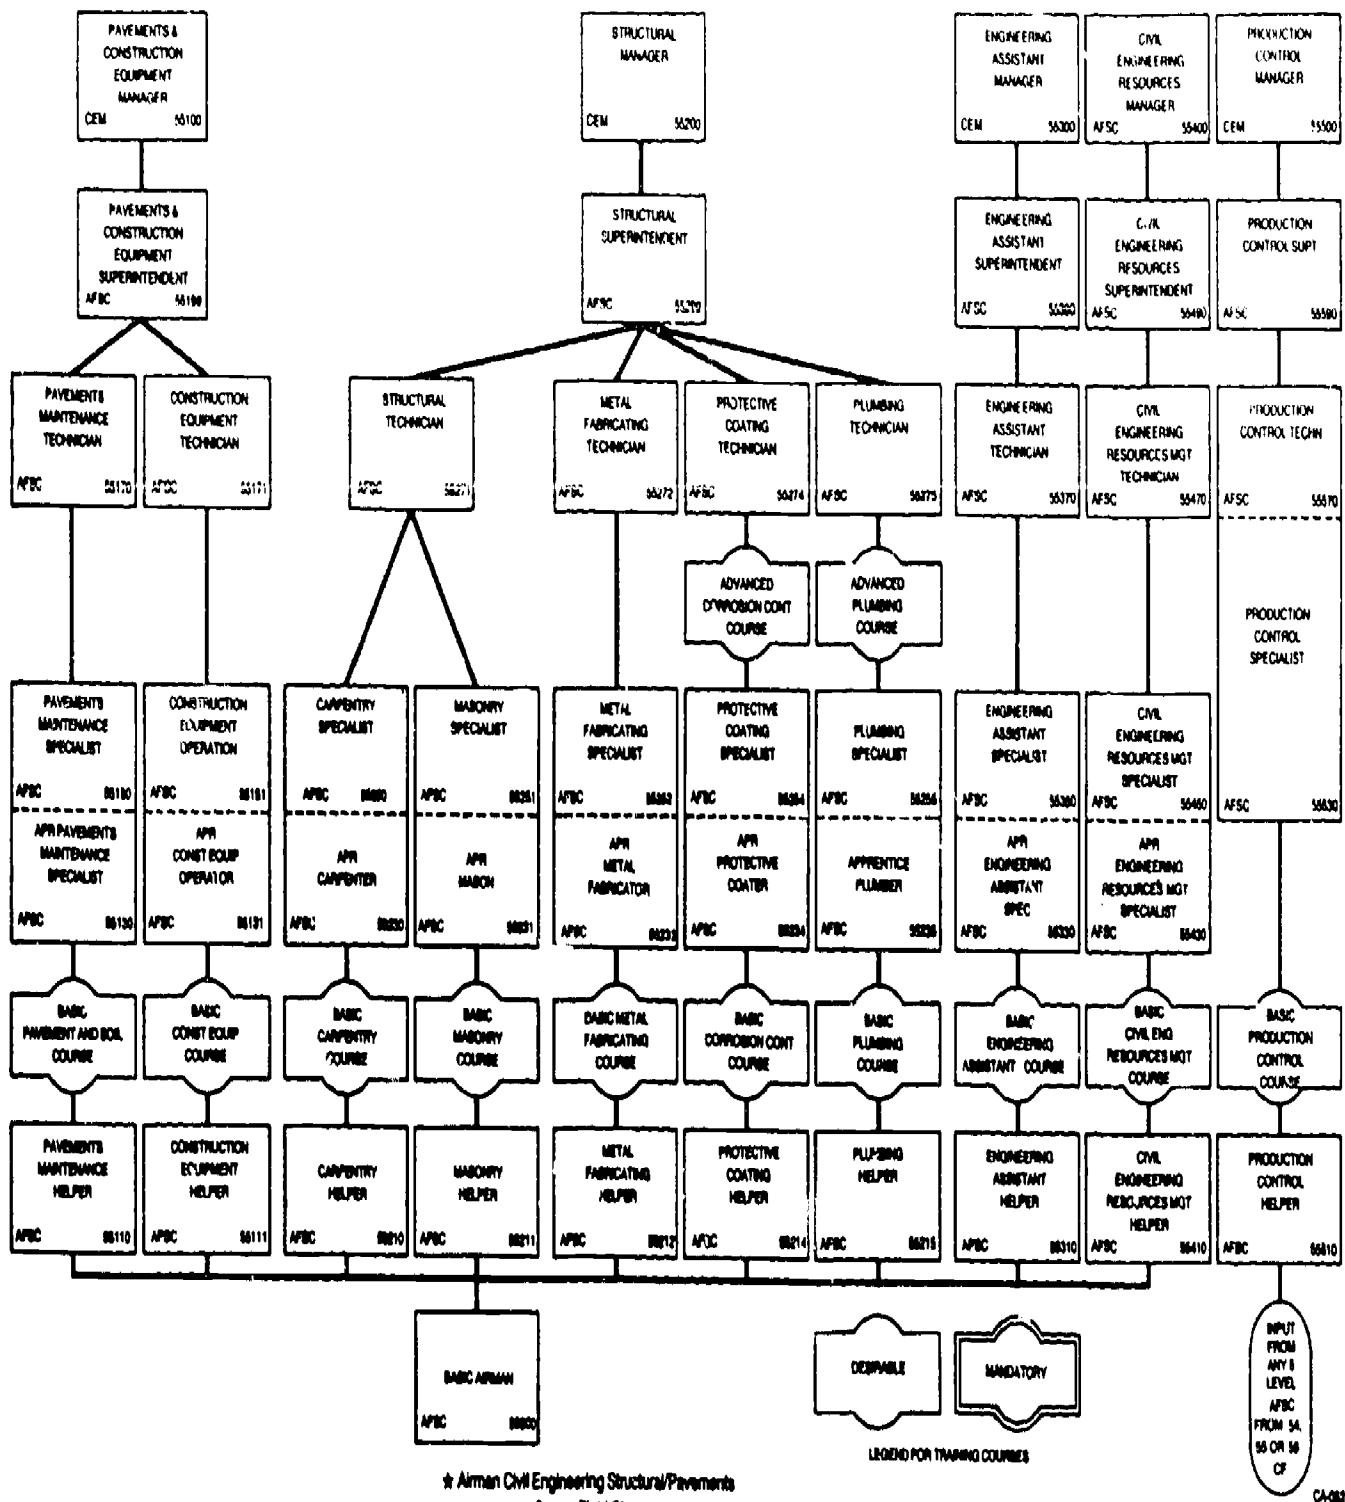

Figure 1-2. CE structure/pavements career field chart.
**Progression in the 55 Career Field.** The chart in figure 1-2 is the Airman Civil Engineering Structural/ Pavements Career Field Chart. The 55 career field is a family of closely related Air Force specialties. Your specialty, as you well know, is metal fabricating. By observing the chart, you can see how you fit into the picture. Notice that your present position is an Apprentice Metal Fabricator, AFSC 55232. It is shown just below the position you are now working for, a Metal Fabricating Specialist, AFSC 55254. The grade for an apprentice in the 55 career field is E-3; for the specialist it varies from E-3 upwards through E-4 to E-5.
Refer to figure 1-2.
**Masonry Specialist (55253).** Notice in figure 1-2 that as the carpentry specialist and the masonry specialist climb the career ladder, they both become structural technicians at the 7 level. The masonry specialist advises the carpentry specialist in placing and building forms. They construct concrete footings, foundations, and floor slabs and lay brick, building blocks, stone, and tile. In addition, they plaster the interior and exterior of buildings.
**Production Control Technician (55570).** In this area of CE, there is no 5 skill level. The 55530 may be semiskilled or apprentice. Note from figure 1-2 that input to this career ladder is from any 5 level in the 54, 55, or 56 career field. The programs and work control technician identifies, plans, monitors, and supervises work requirements for maintenance, repair, and minor construction work performed by civil engineering work forces and/or contract. He or she also supervises programs and work control activities.